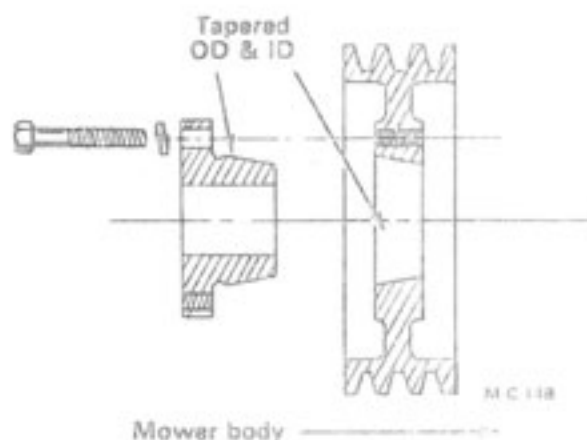

Figure 26
5. Place the bushing into the pulley from the front so that the bushing flange is to the outside, see Figure 26. The bushing and the bore of the pulley are tapered. Be sure to install the bushing into the large ID of the pulley tapered bore. If the bushing is installed into the small ID of the pulley, the pulley hub will crack when the mounting capscrews are tightened.